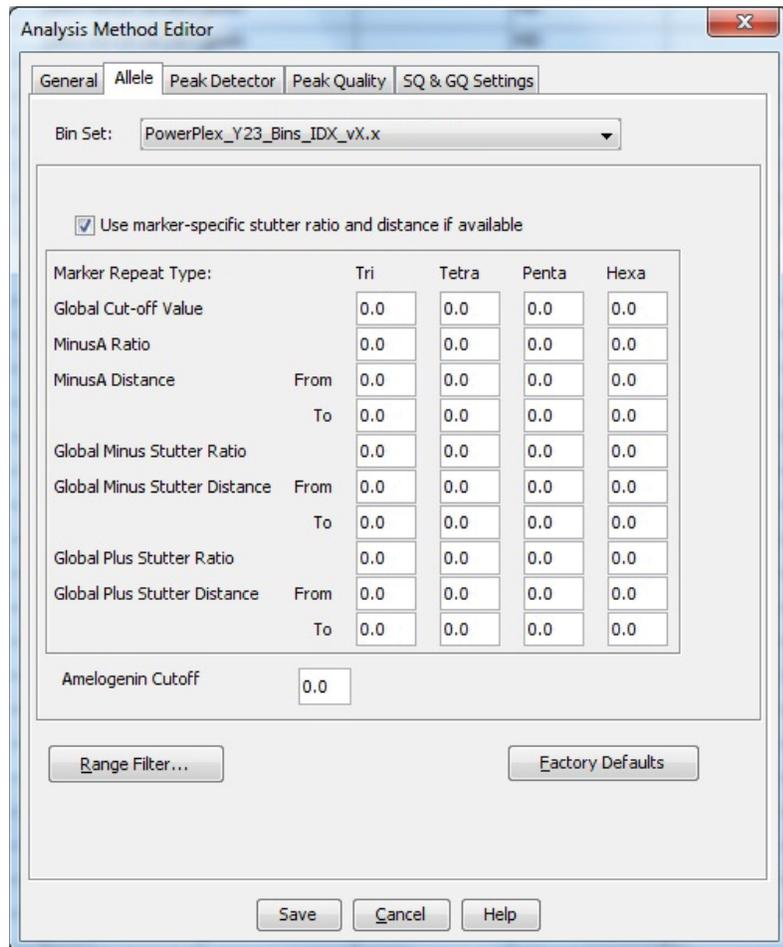

Figure 22. The GeneMapper® ID-X 'Allele' tab.
6. Select the 'Allele' tab (Figure 22).